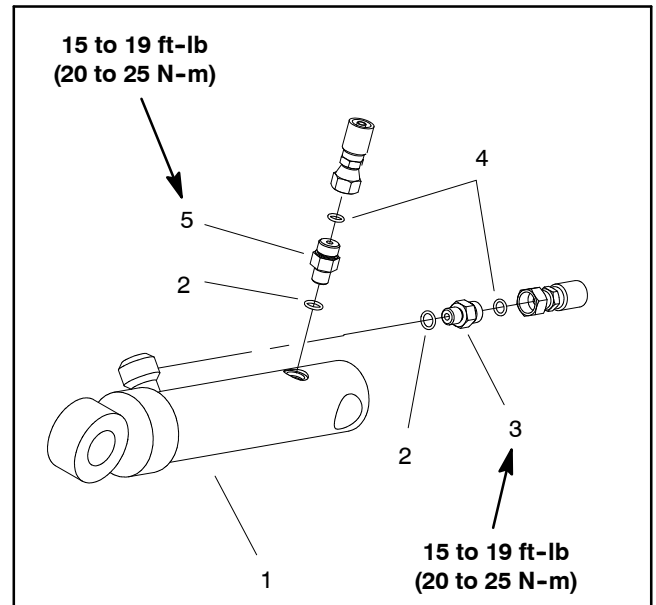

Figure 141
6. Remove one retaining ring (item 8) and washer (item 7) from the cylinder shaft (item 6) that secures lift cylinder barrel end to machine frame. Pull shaft from the lift cylinder and frame. Locate and retrieve second washer.
7. Remove shoulder bolt (item 4) and pivot pin (item 2) that secure lift cylinder rod end to lift shaft.
9. If necessary, remove hydraulic fittings from lift cylinder (Fig. 141). Remove and discard O-rings from fittings. Note that fitting on barrel end of cylinder is an orifice fitting that is different than fitting on rod end of cylinder.